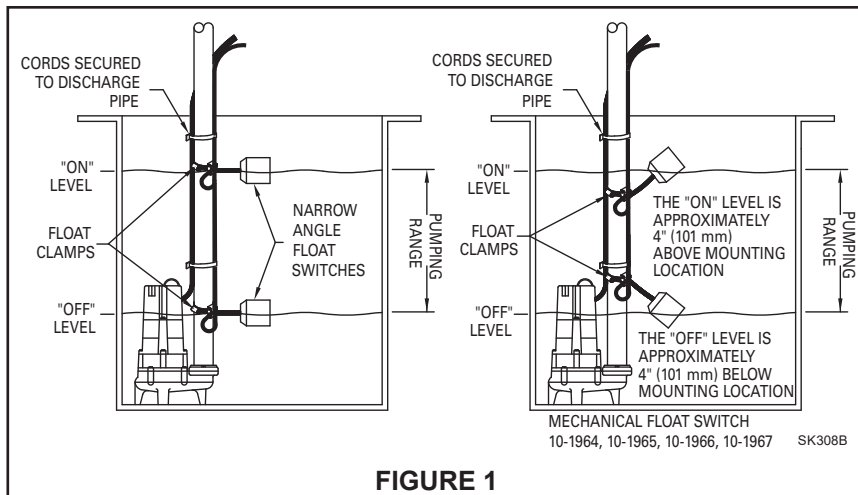

FIGURE 1
1. Decide the desired pumping range for your installation. (See Fig. 1.) Secure the float cable clamps to the discharge pipe at the distance you desire. (See clamp detail in Fig. 6 on next page). The float labeled "TOP" must be on top. (The cable clamps are releasable, which permits readjustment and removal.)
3. Securely tape or clamp both piggyback switch cord and pump cord to the discharge pipe, clear of float operation. (See Fig. 1.) Excess cord should be coiled and fastened to the discharge pipe.